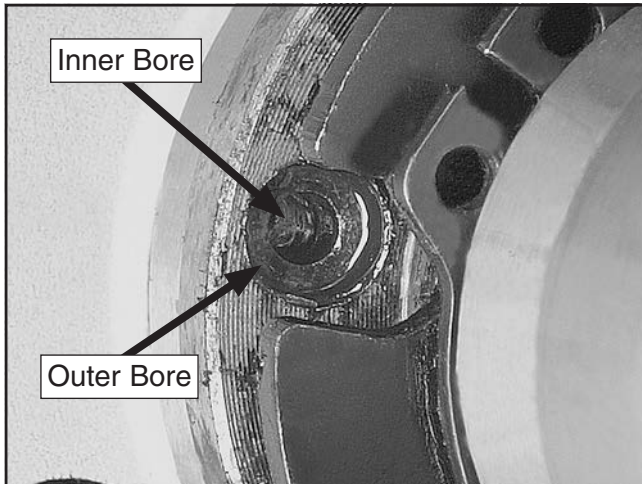

Figure 131. Shear pin bores aligned.
- Use the magnet to remove the shear pin head, then rotate the lathe spindle to line up the inner and outer bores, as shown in **Figure 131**. Next, use the magnet to remove the other half of the broken shear pin when it becomes visible.